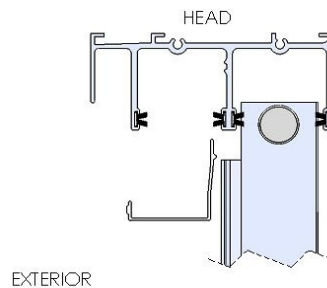

Figure 17:
9. Insert modified plug into interlocker and install Head Closer (Figure 17 & 18).